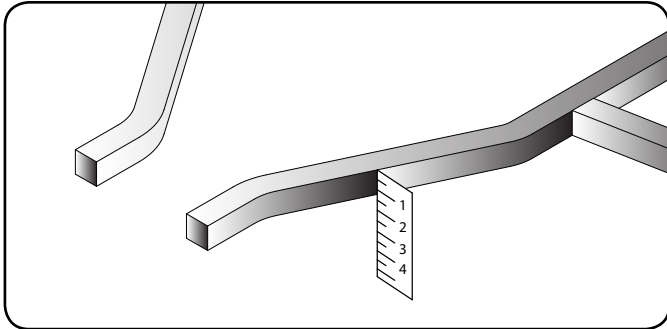

Figure 19 - Frame Measurement
2. Measure the thickness of your tube frame and skid plate (if installed) see Figure 19. Then cut the provided rubber spacers to a $\frac{1}{4}$ in. (6.4 mm) longer than the thickness of the tube frame.